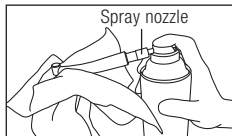

Fig. 21
- ② Shake the can 3 or 4 times.
- ③ Insert the spray nozzle into the rear of the handpiece while holding the head of the handpiece with a cloth etc. (Fig. 21).